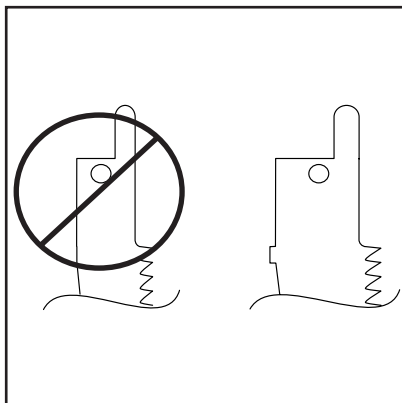

Fig 1. Always use correct shank profile.
3. Remove the blade and replace with blade that has appropriate shank profile (see **Figure 1**). Make sure the blade has the correct tooth count per inch for the job to be done.